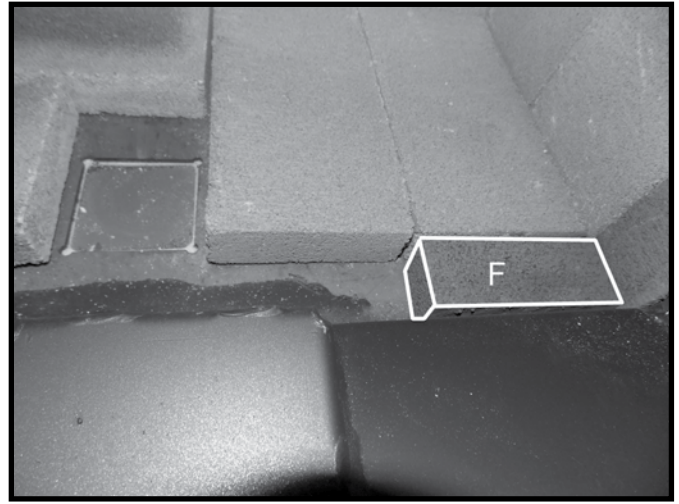
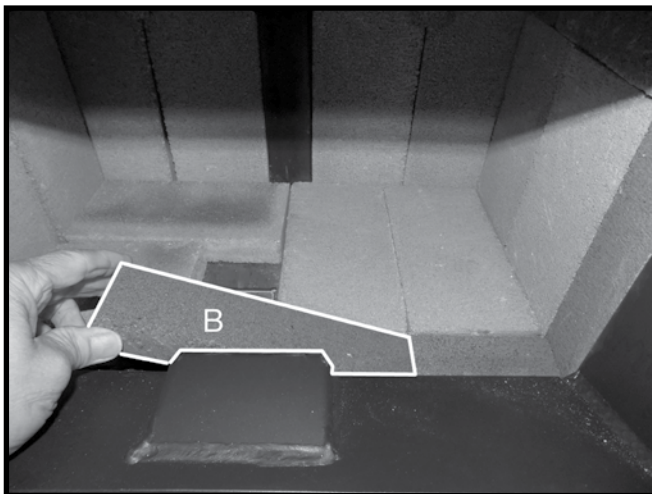
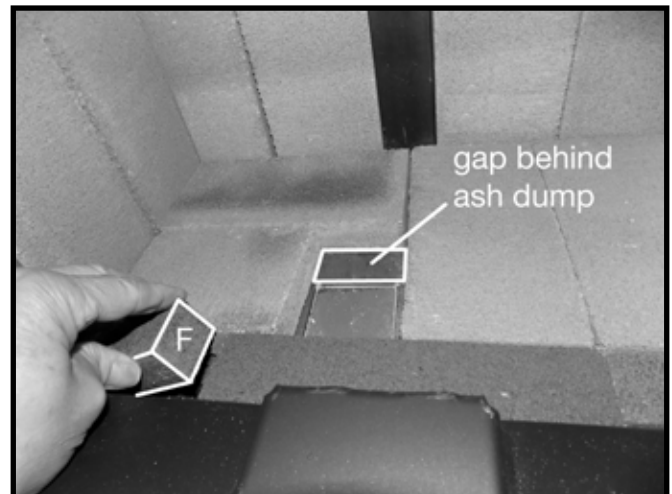

Figure 34: Short, narrow brick installed in front row.
Figure 35: Long narrow center brick in front row.
Figure 36: Final short narrow brick in front row.
11. Place a short narrow "F" brick against the front right side of the floor (Figure 34) followed by a longer "B" brick in the center of the front row (Figure 35). Finish with the last "F" brick placed against the left side front row (Figure 36). Note: There will be a gap remaining behind the ash dump.